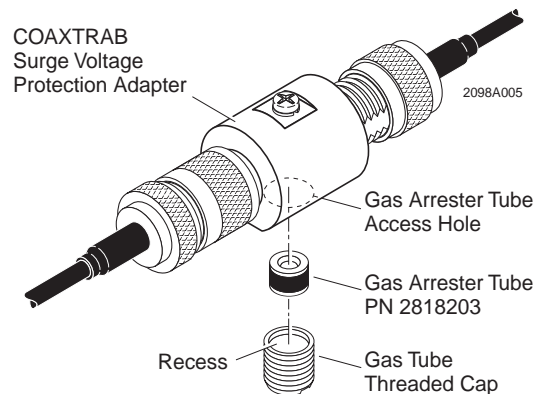

Figure 13. CN-UB280DC Gas Arrester Replacement
1. Using a blade type screwdriver remove the threaded cap from the adapter housing. See Figure 13. Then remove and discard the gas arrester tube from the housing.
If you experience a problem installing the gas arrester tube, remove the COAXTRAB adapter from the system. Then position the adapter as shown in Figure 13 and install the gas arrester tube.